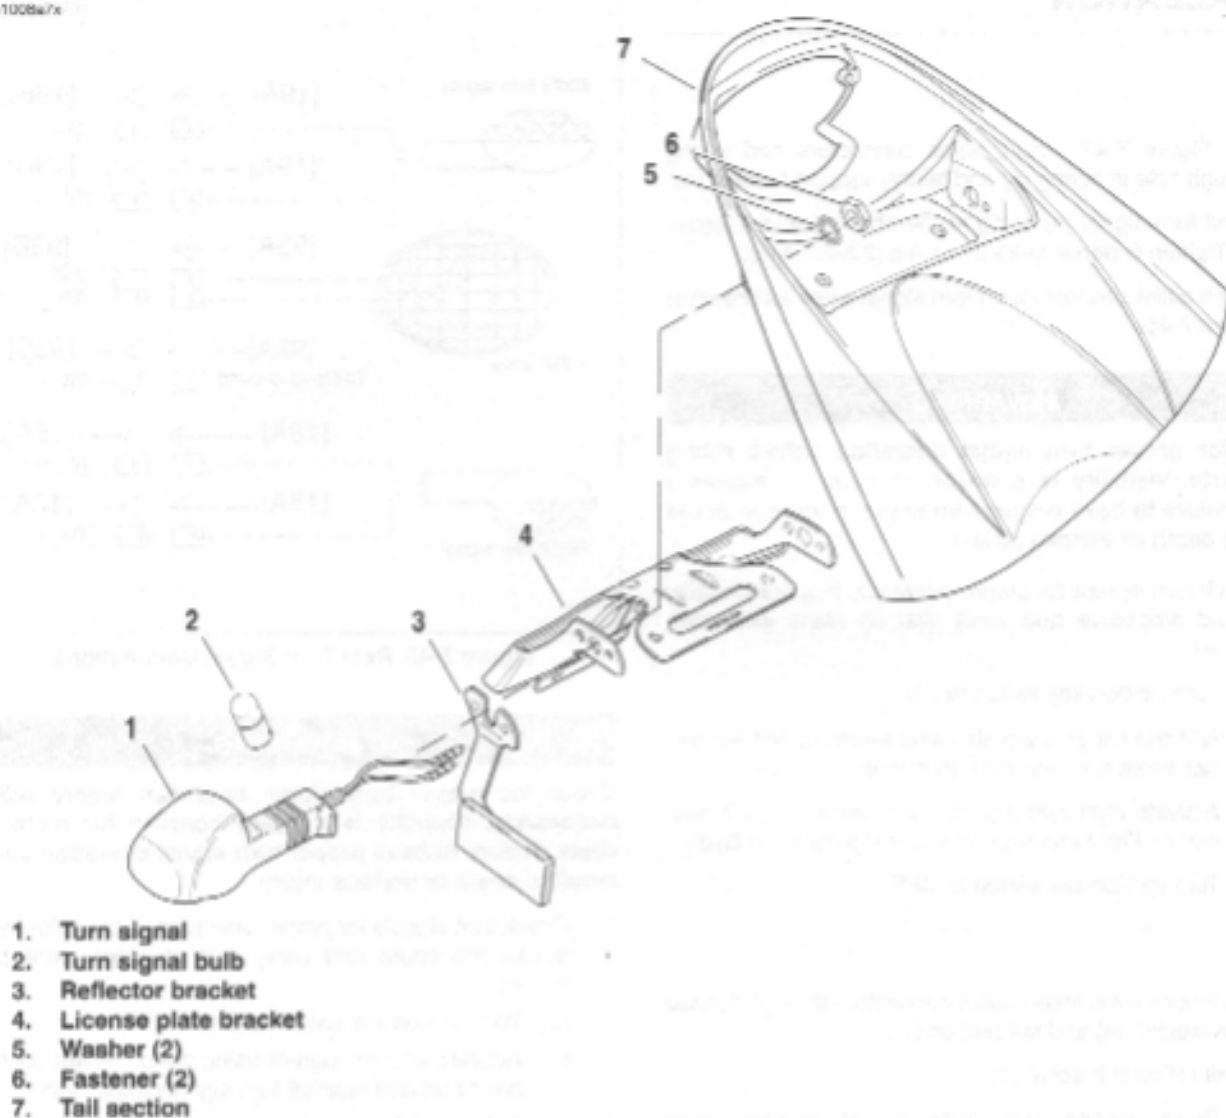

Figure 7-48. Rear Turn Signals
4. See Figure 7-48. Remove fastener (6) and lockwasher (5).